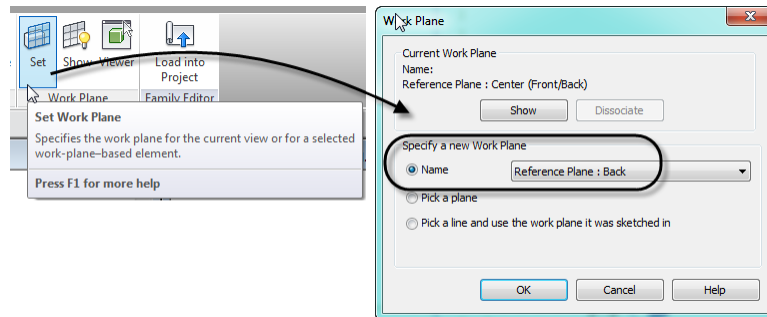

Figure 18
2. In the "Work Plane" dialog, from the Name list, choose: **Reference Plane: Back** and then click OK (see Figure 18).